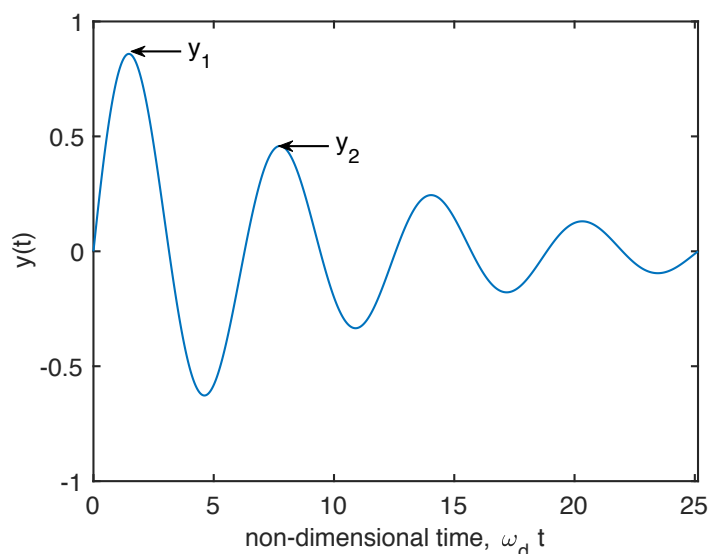

Figure 3 – An example of “ringing” behavior for a damped harmonic oscillator.
Your data should look similar to Fig. 3. It should be a nice sinusoid with an exponential decay envelope, just as you would expect for the ringing of a damped harmonic oscillator. If your data is noisy, try using the `smooth()` function in Matlab to filter out the noise. For your lab reports, you will need to quantitatively compare your data with Eq. (3). To do this, we will use the data to calculate λ , ω_d , and ϕ and estimate A .